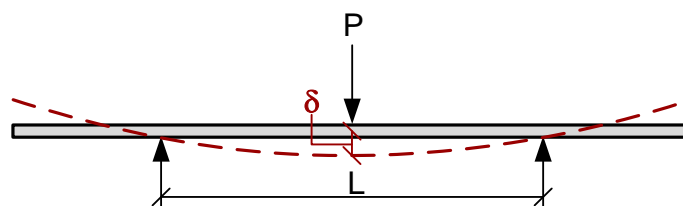

Figure 3: Load condition case 1
3. Apply a concentrated load P at mid span (loading case 1 in Fig. 3) and read the corresponding deflection for at least three different values of the load. Record readings in Table 1. Note that $L = 660$ mm.
Table 1: Readings from load condition case 1 (Fig. 3)